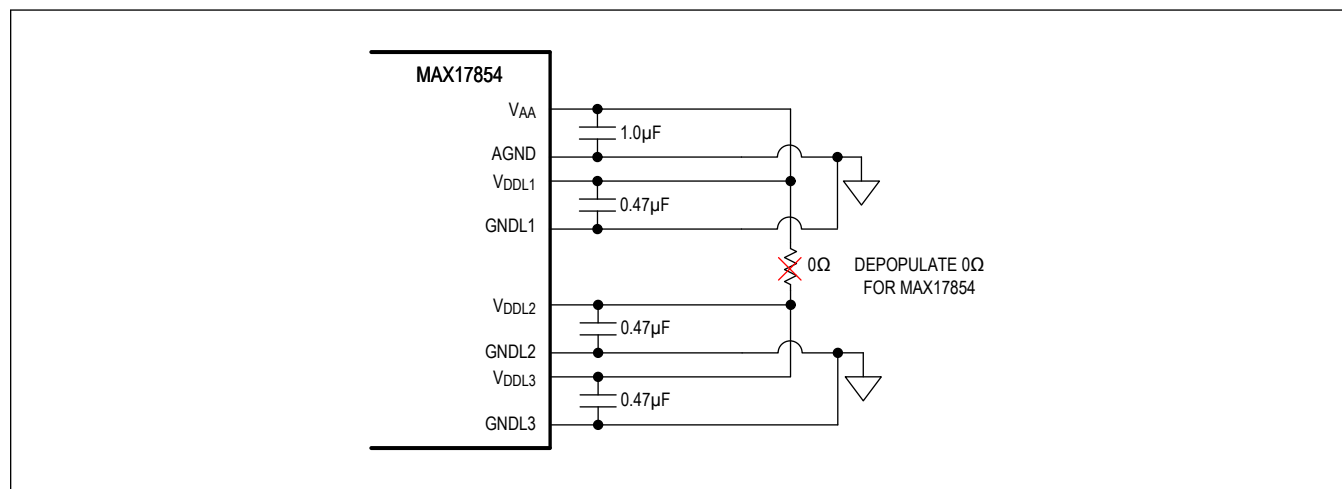

Figure 114. MAX17853 to MAX17854 Hardware Change
While migrating the solution from the MAX17853 to MAX17854, one hardware change is required. On the MAX17853 evaluation (EV) kit, the  $V_{AA}$  output is tied to  $V_{DDL2}$  and  $V_{DDL3}$  through an external resistor. Since the MAX17854 has two regulators, this connection needs to be removed, hence the external resistor needs to be depopulated on EV kit to make the hardware to be used for the MAX17854, as shown in the Figure 114. A similar change to this effect would be required for any user-defined hardware.